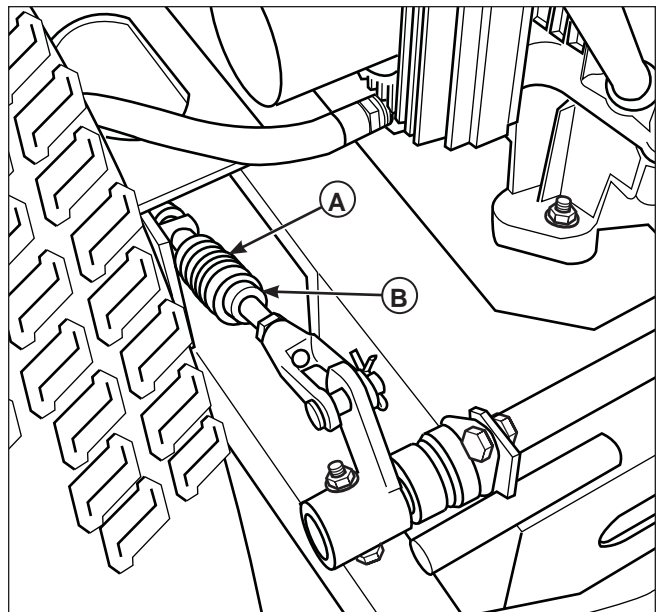

Figure 32. Parking Brake Adjustment
3. Locate the two parking brake springs (A, Figure 32). One is located on the left rear side of the engine deck by the left drive wheel and the other is located on the rear right side of the engine deck by the right drive wheel.
4. Loosen the set collar (B) and then tighten it snugly against the white brake spring. Repeat process for other side.